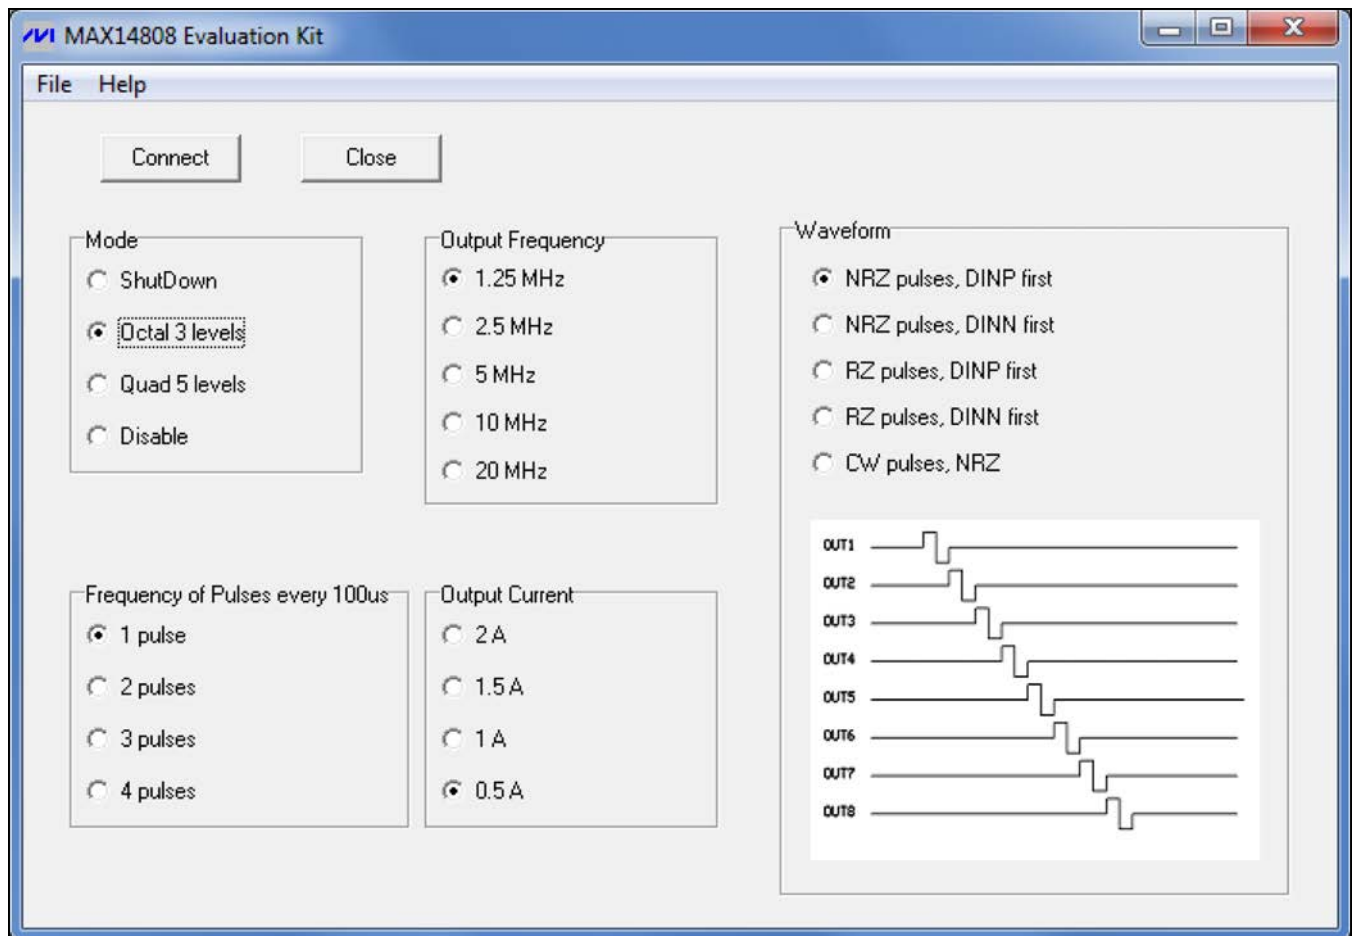

Figure 1. MAX14808 EV Kit Software
- 11) Start the EV kit software by opening its icon in the Windows **Start | Programs** menu. The EV kit software main window appears, as shown in Figure 1.